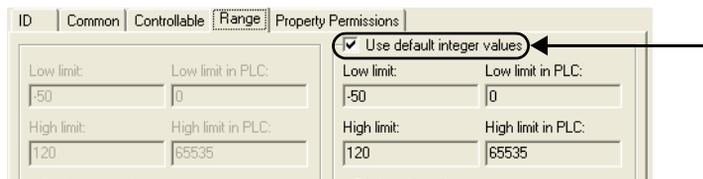

Figure 32. Range Tab for a Signal
When Use default values is selected, the default values from the signal types will be used, see Figure 32.
15. Click **Apply**. The settings will revert to default values, see also Figure 32.